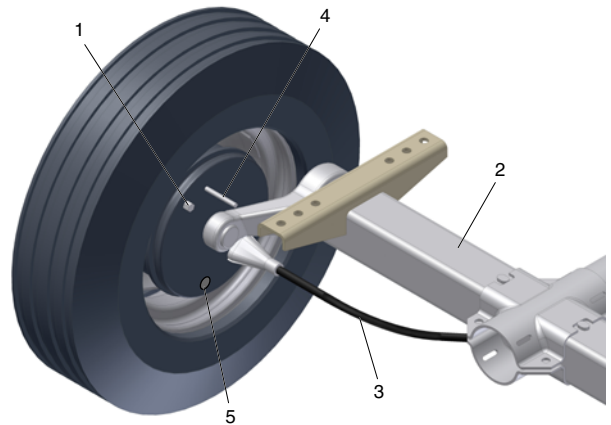

Fig. 5.5 Brake shoe adjustment
Lift and support the compressor. Make sure that all brakes are off (overrunbrake and hand brake lever). The brake cables must be free from tension. Lock the swivel cams of the wheel brake from the outside by means of a pin \varnothing 4 mm (4) through the hole as shown in Fig. 5.5.